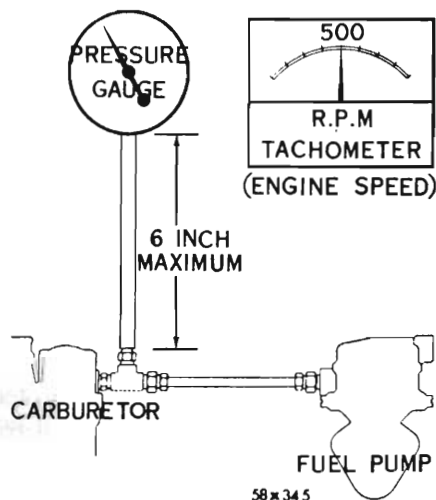

Fig. 1 - Pressure testing the fuel pump
(1) Insert a "T" fitting in the fuel line at carburettor as shown in *Fig. 1*.
(2) Connect a 6" piece of hose between the "T" fitting and gauge E14C35. (The hose should not exceed 6" in length.)